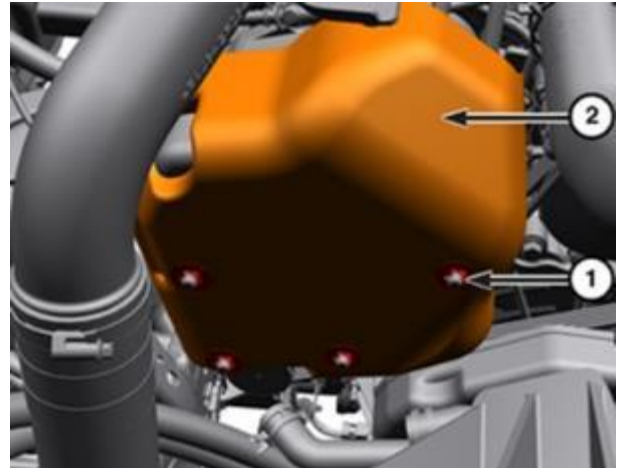

Figure 150 – Pump Cover
- 14. Remove the retainers (1) that secure the cover (2) for the high-pressure fuel pump (Figure 150).